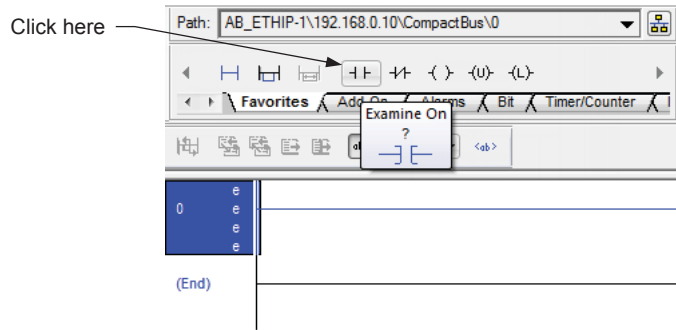

Figure 100. Adding an Examine On (XIC) instruction.
- Let us start by having an indicator light turn on whenever the mechanical limit switch at the bottom of the clamp cylinder is actuated. To do so, you will need an Examine On (XIC) and an Output Energize (OTE) instruction. First, add the Examine On instruction by clicking the symbol while rung 0 is selected (Figure 100).